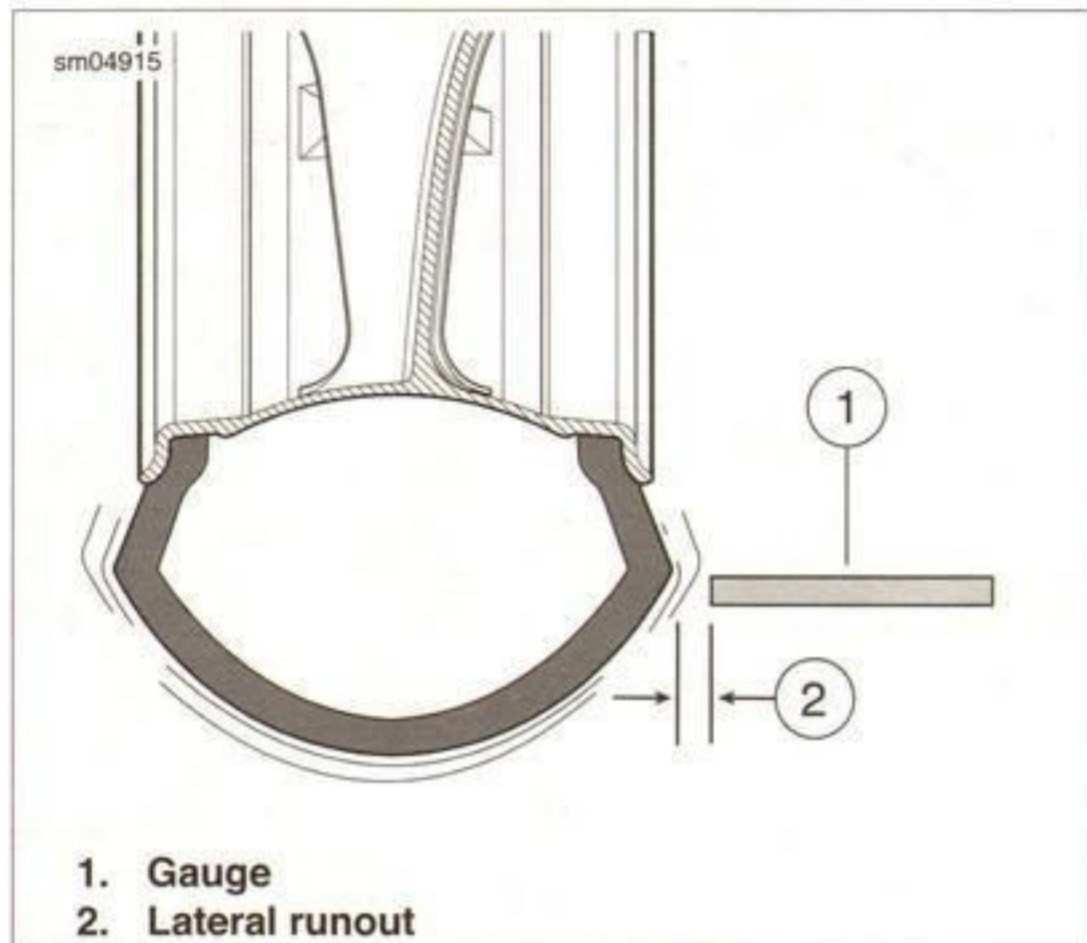

Figure 2-17. Lateral Runout
1. See Figure 2-17. Mount the wheel and tire in a wheel stand or in the swingarm and fix a gauge (1) to measure runout.
2. Spin the wheel and measure tire lateral runout (2). Refer to Table 2-11.